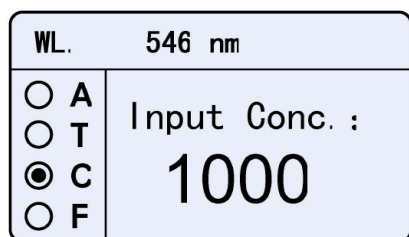

Fig. 4-7
- 4) Press  or  to input the standard concentration, and press  to confirm. (Fig. 4-7).